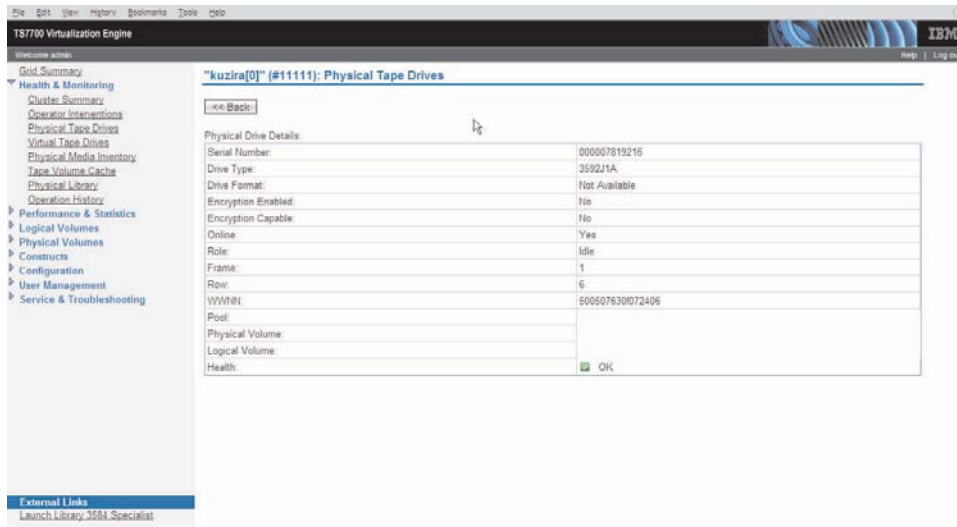

Figure 31. Physical Drive Details page
2. Click the radio button adjacent to the drive you want to verify and select **Details** from the **Select Action** drop-down menu. The *Physical Drive Details* page displays, as shown in Figure 31 on page 91.